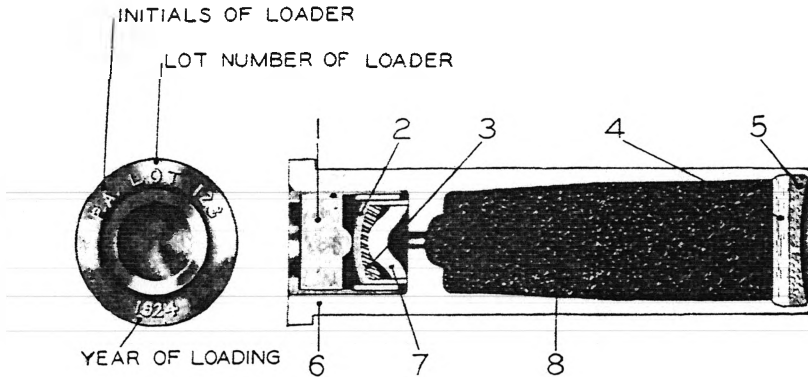

FIG. 14.—49-grain percussion primer, Mk. I
**20. Cartridge case.**—*a. Description.*—The cartridge case is of drawn brass (fig. 1) and is about 13.8 inches long. A cartridge case assembled with a loaded primer weighs about 2.75 pounds. A projecting rim or flange is formed on the head of the cartridge case, and the extractor of the gun engages this rim to eject the case from the gun after firing. This rim or flange also acts as a stop for the round when it is loaded into the gun. The primer (fig. 14) is fitted in the center of the head of the case and is forced into its seat by a press.
*b. Action.*—Figure 14 shows the 49-grain percussion primer, Mk. I. When the firing plug (1) is struck by the firing pin of the gun, the top of the cup (2) is indented and the composition pellet (3) is exploded. The flame of this explosion passes through a hole and ignites the black powder charge (8), which, in turn, fires the propelling charge in the cartridge case. The composition pellet (3) is sensitive, and care must be taken that the firing plug (1) is not hit by any hard object. A blow simulating that of a firing pin attached to a 1-pound weight and dropped through a height of 3 inches may cause it to function.
*c. Marking.*—Identification marks are stamped on the bottom of the primer case, as shown in Figure 14.